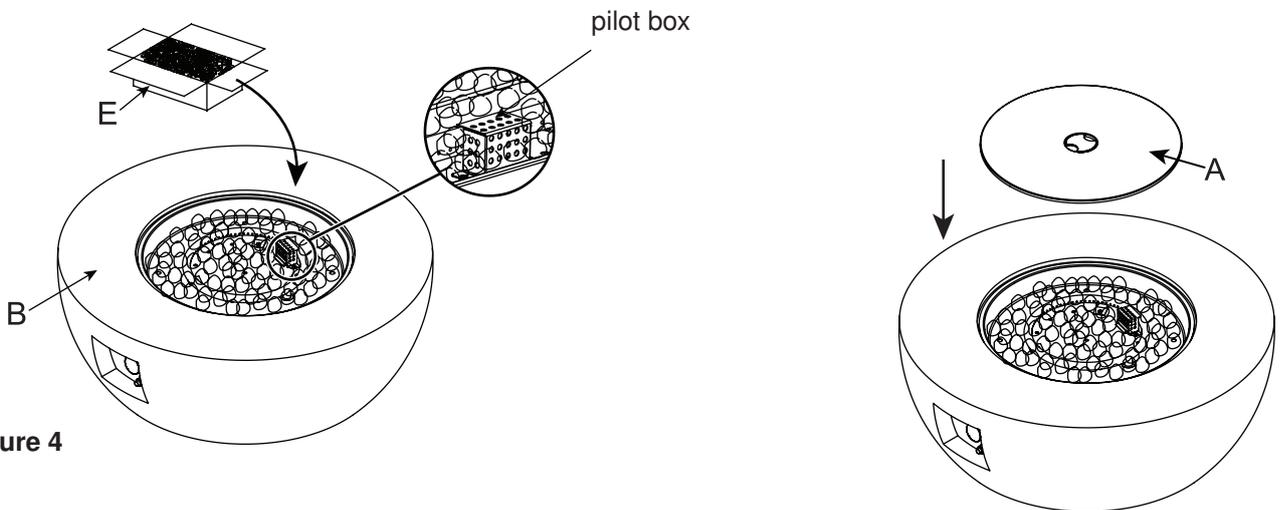

Figure 4
5. Pour the lava rocks (E) into the fire bowl of the fire pit body (B) (see Figure 4).
NOTE: Do not cover the pilot box with lava rocks. (see Figure 4)